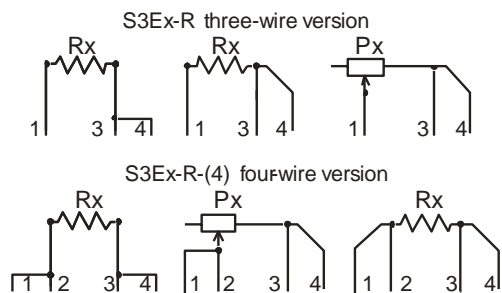

Fig.1. Resistance sensors Rx and potentiometers P connection
- converter of potentiometer position (fig.1).
sensor connection line - fig.1